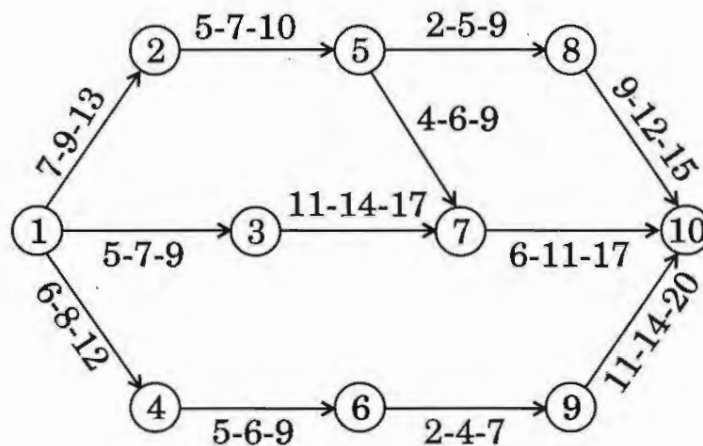

Figure 9
- (b) Calculate the expected time t_E and critical path for the following network shown in Figure 9. The optimistic, most likely and pessimistic time for each activity is as shown. 1 is the initial event and 10 is the end event.